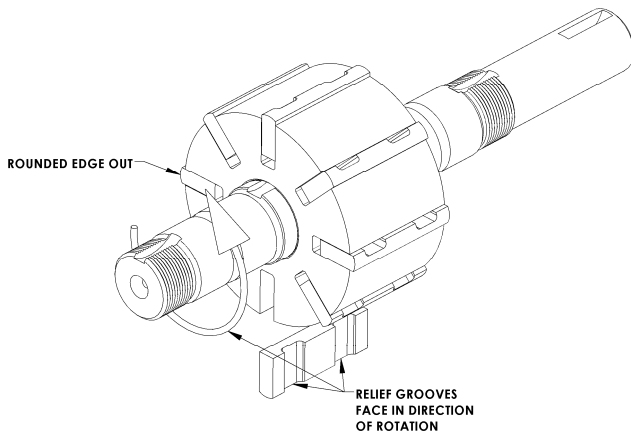
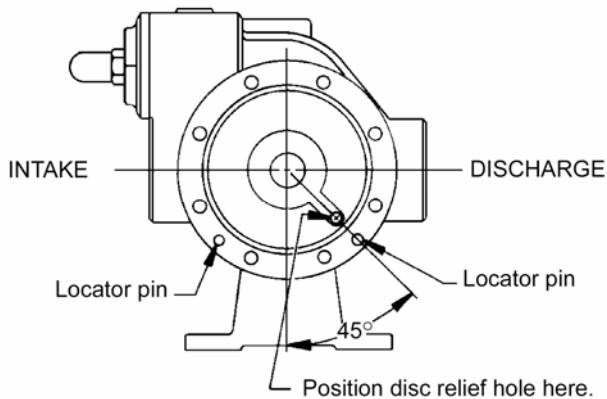

Figure 6 – Vane Replacement
Figure 7 - Disc Relief Hole Location
3. Turn the shaft by hand until a vane (14) comes to the top (12 o'clock) position of the rotor. Remove the vane.
4. Install a new vane (14), ensuring that the rounded edge is UP, and the relief grooves are facing towards the direction of rotation. See Figure 6.
1. Align the liner keyway with the setscrew (74) that extends down into the pump casing (12) and start the liner (41) into the casing. The word "INTAKE" cast on the liner must face the intake port of the pump casing. Uniformly tap the outer edge of the liner with a rubber mallet to fully insert into the casing.
2. Place the disc (71) against the liner (41) with the seal cavity outward and disc relief hole located as shown in Figure 7.
3. Without installing the head O-ring (72) or mechanical seal components, temporarily attach the outboard head (20) and bearing (24) to the casing (12). Install and hand-tighten two head capscrews (21), 180 degrees apart. This head will be used to hold and align the rotor and shaft (13) while the inboard side of the pump is assembled. **NOTE: It is a good practice to attach pump heads to the same ends they were removed from.**
4. Before installing the rotor & shaft assembly (13), the direction of pump rotation must be determined as follows: If the pump is to be **right-hand** with **clockwise** rotation, the intake port and the relief valve must be on the **right** with the drive end of the shaft pointing towards the observer. If the pump is to be **left-hand** with **counterclockwise** rotation, the intake port and the relief valve must be on the **left** with the drive end of the shaft pointing towards the observer.
5. Remove the vanes (14) and push rods (77 - if equipped) from the rotor and shaft assembly (13). Inspect for wear and damage, and replace as follows:
- a. Insert the vanes (14) into the bottom rotor slots with the relief grooves facing in the direction of pump rotation, and with the rounded edges outward. See Figure 6.
- b. If the pump is equipped with the four-vane rotor and shaft (13A), hold the two bottom vanes (14) in place while inserting the two push rods (77).
- c. After the bottom vanes (14) (and push rods, 77 - if equipped) are installed, carefully insert the non-driven end of rotor and shaft into the casing (12).
- d. Install all remaining vanes (14) into the top positions of the rotor.
6. Install the disc (71) on the inboard side of the pump with the seal cavity facing outward and the disc relief hole located as shown in Figure 7.
7. Install a new head O-ring (72) in the groove between the disc (71) and the casing(12).